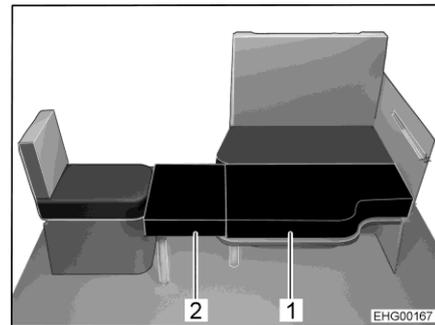

Fig. 113 After conversion
Together with the individual seat on the side and the lowered table top of the suspension table, the divan can be converted into an additional bed. Two additional cushions (Fig. 113,2) is equipped with a fold-out footrest and an angle bracket. The other additional cushion (Fig. 113,1) is placed on the table top.
- Fold footrest out on the smaller additional cushion (Fig. 113,2).
- Hook angle bracket of the additional cushion (Fig. 113,2) into individual seat and place additional cushion on the table top.
- Place the second additional cushion (Fig. 113,1) on the table top.